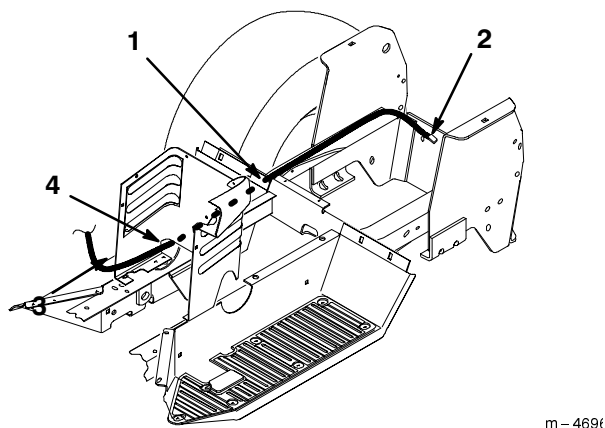

Figure 7
1. Route the magnet connector of harness through the lower hole in panel below steering wheel (Fig. 7).
2. Route harness through right side fender frame towards the rear of the tractor (Fig. 7).